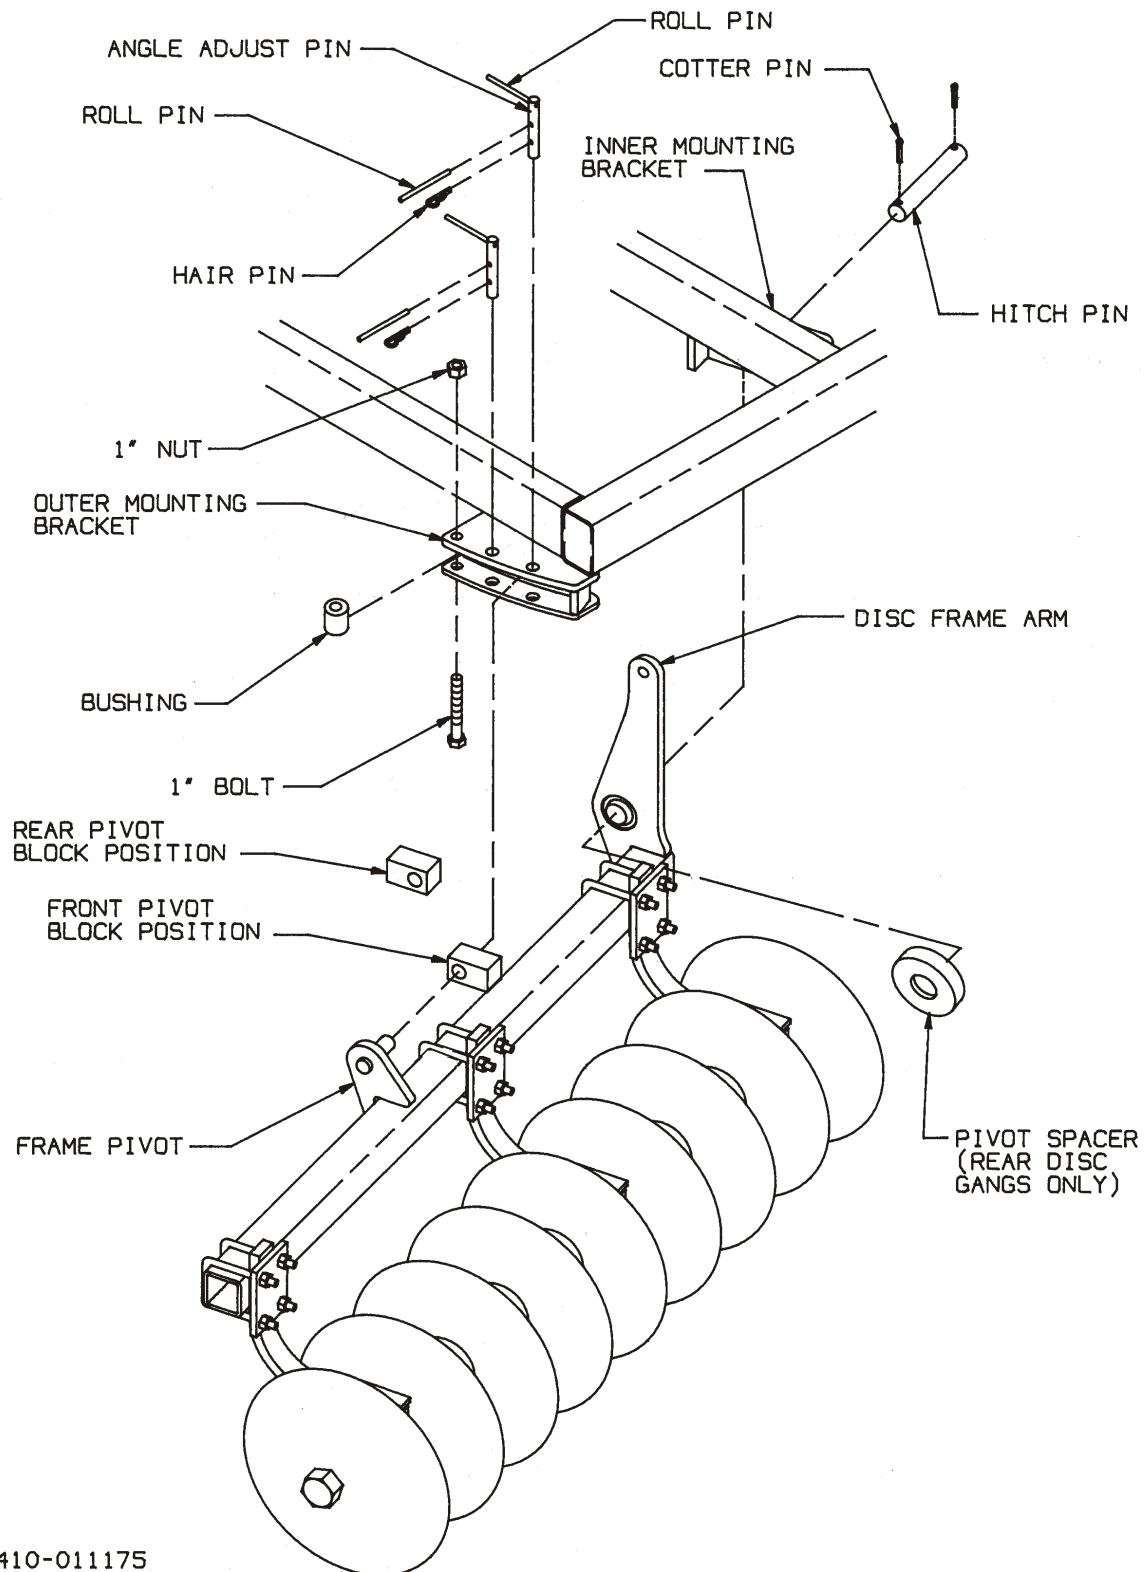

Figure 3-9 Disc Gang Installation
- Two angle adjust pins are installed in the outer mounting bracket with hair pins. Make sure angle adjust pins are assembled as shown in **Figure 3-9**. These angle adjust pins are used to adjust the angle of the disc gangs. (See **Section 4-4.7**).
- f. Two angle adjust pins are installed in the outer mounting bracket with hair pins. Make sure angle adjust pins are assembled as shown in **Figure 3-9**. These angle adjust pins are used to adjust the angle of the disc gangs (**See Section 4-4.7**).